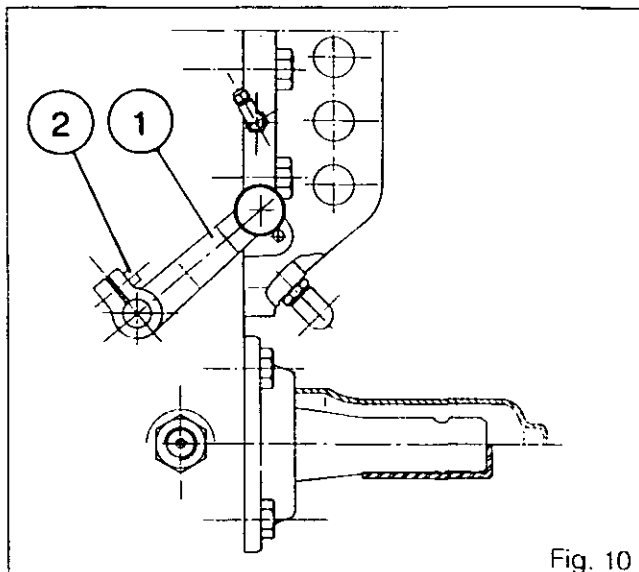

Fig. 10
- b) external control (depending on option) (Figs. 10 and 11).